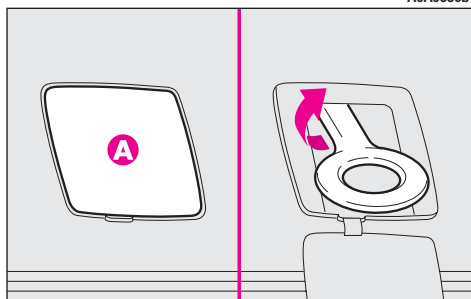
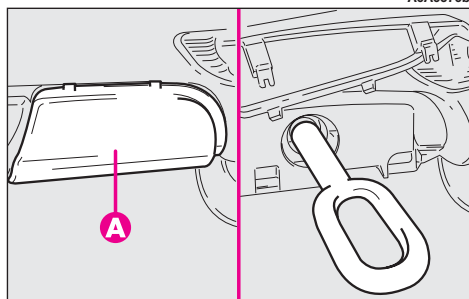

fig. 55 - front
fig. 56 - rear
- Remove the cover (A) snap-fitted on the front (fig. 55) or rear (fig. 56) bumper. To do this, using the flat-bladed screwdriver provided, protect the tip with a soft cloth to avoid damaging the car.